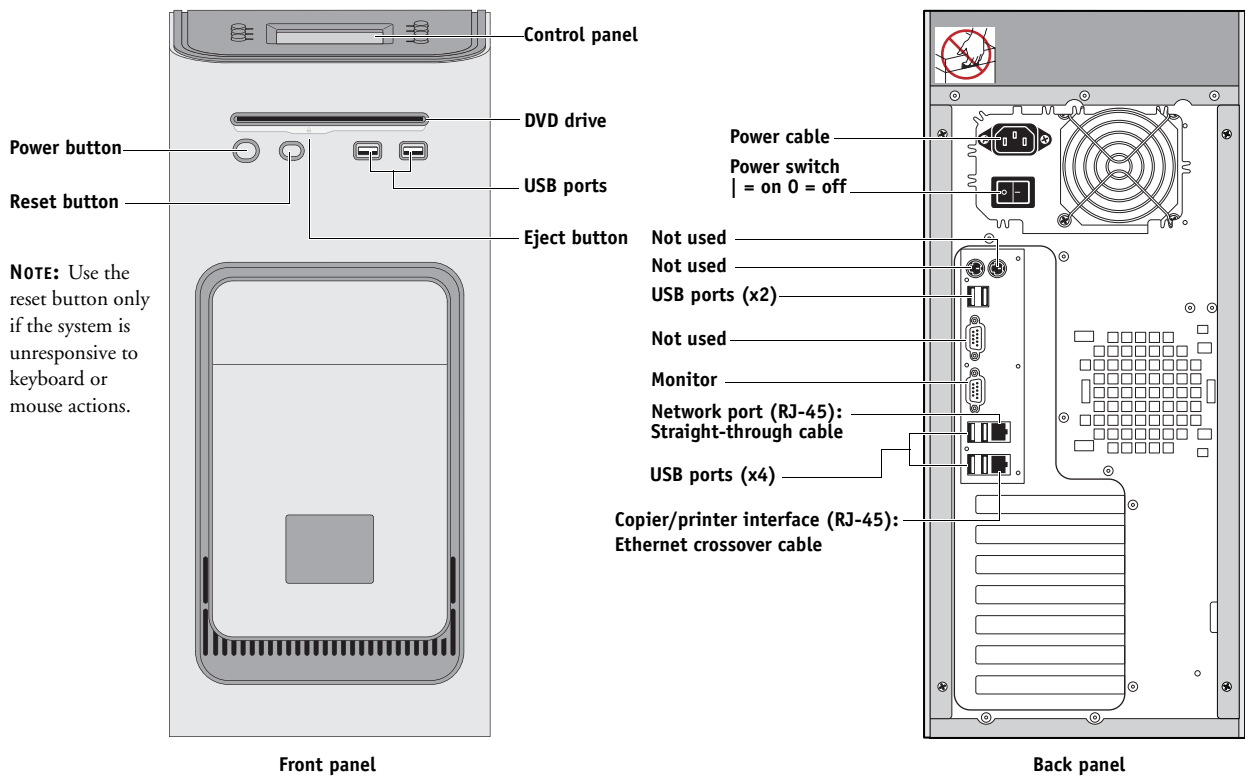

FIGURE 6: E-41A connections
1. Connect the recessed end of the E-41A power cable to the power connector on the back of the E-41A (see Figure 6 on page 29).
Make sure that you connect the cable to the correct RJ-45 port (see Figure 6 on page 29). The network and copier/printer interface cables look similar but are not interchangeable. The copier/printer interface cable included with the E-41A is a 39.3 ft. Ethernet *crossover* cable that connects to the lower RJ-45 port on the E-41A back panel. The network cable at the customer site is a *straight-through* Ethernet cable that connects to the upper RJ-45 port on the E-41A back panel. To verify the cable type, align the connectors on each end of the cable as shown in Figure 7. On a straight-through cable, the wire arrangements are identical on both ends; on a crossover cable, the wire arrangements are different.
2. Connect the straight-through network cable to the upper RJ-45 port on the E-41A back panel (see Figure 6 on page 29).
Make sure that you connect the cable to the correct RJ-45 port (see Figure 6 on page 29). The network and copier/printer interface cables look similar but are not interchangeable. The network cable at the customer site is a *straight-through* Ethernet cable that connects to the **upper** RJ-45 port on the E-41A back panel. The copier/printer interface cable included with the E-41A is a 39.3 ft. Ethernet *crossover* cable that connects to the **lower** RJ-45 port on the E-41A back panel.